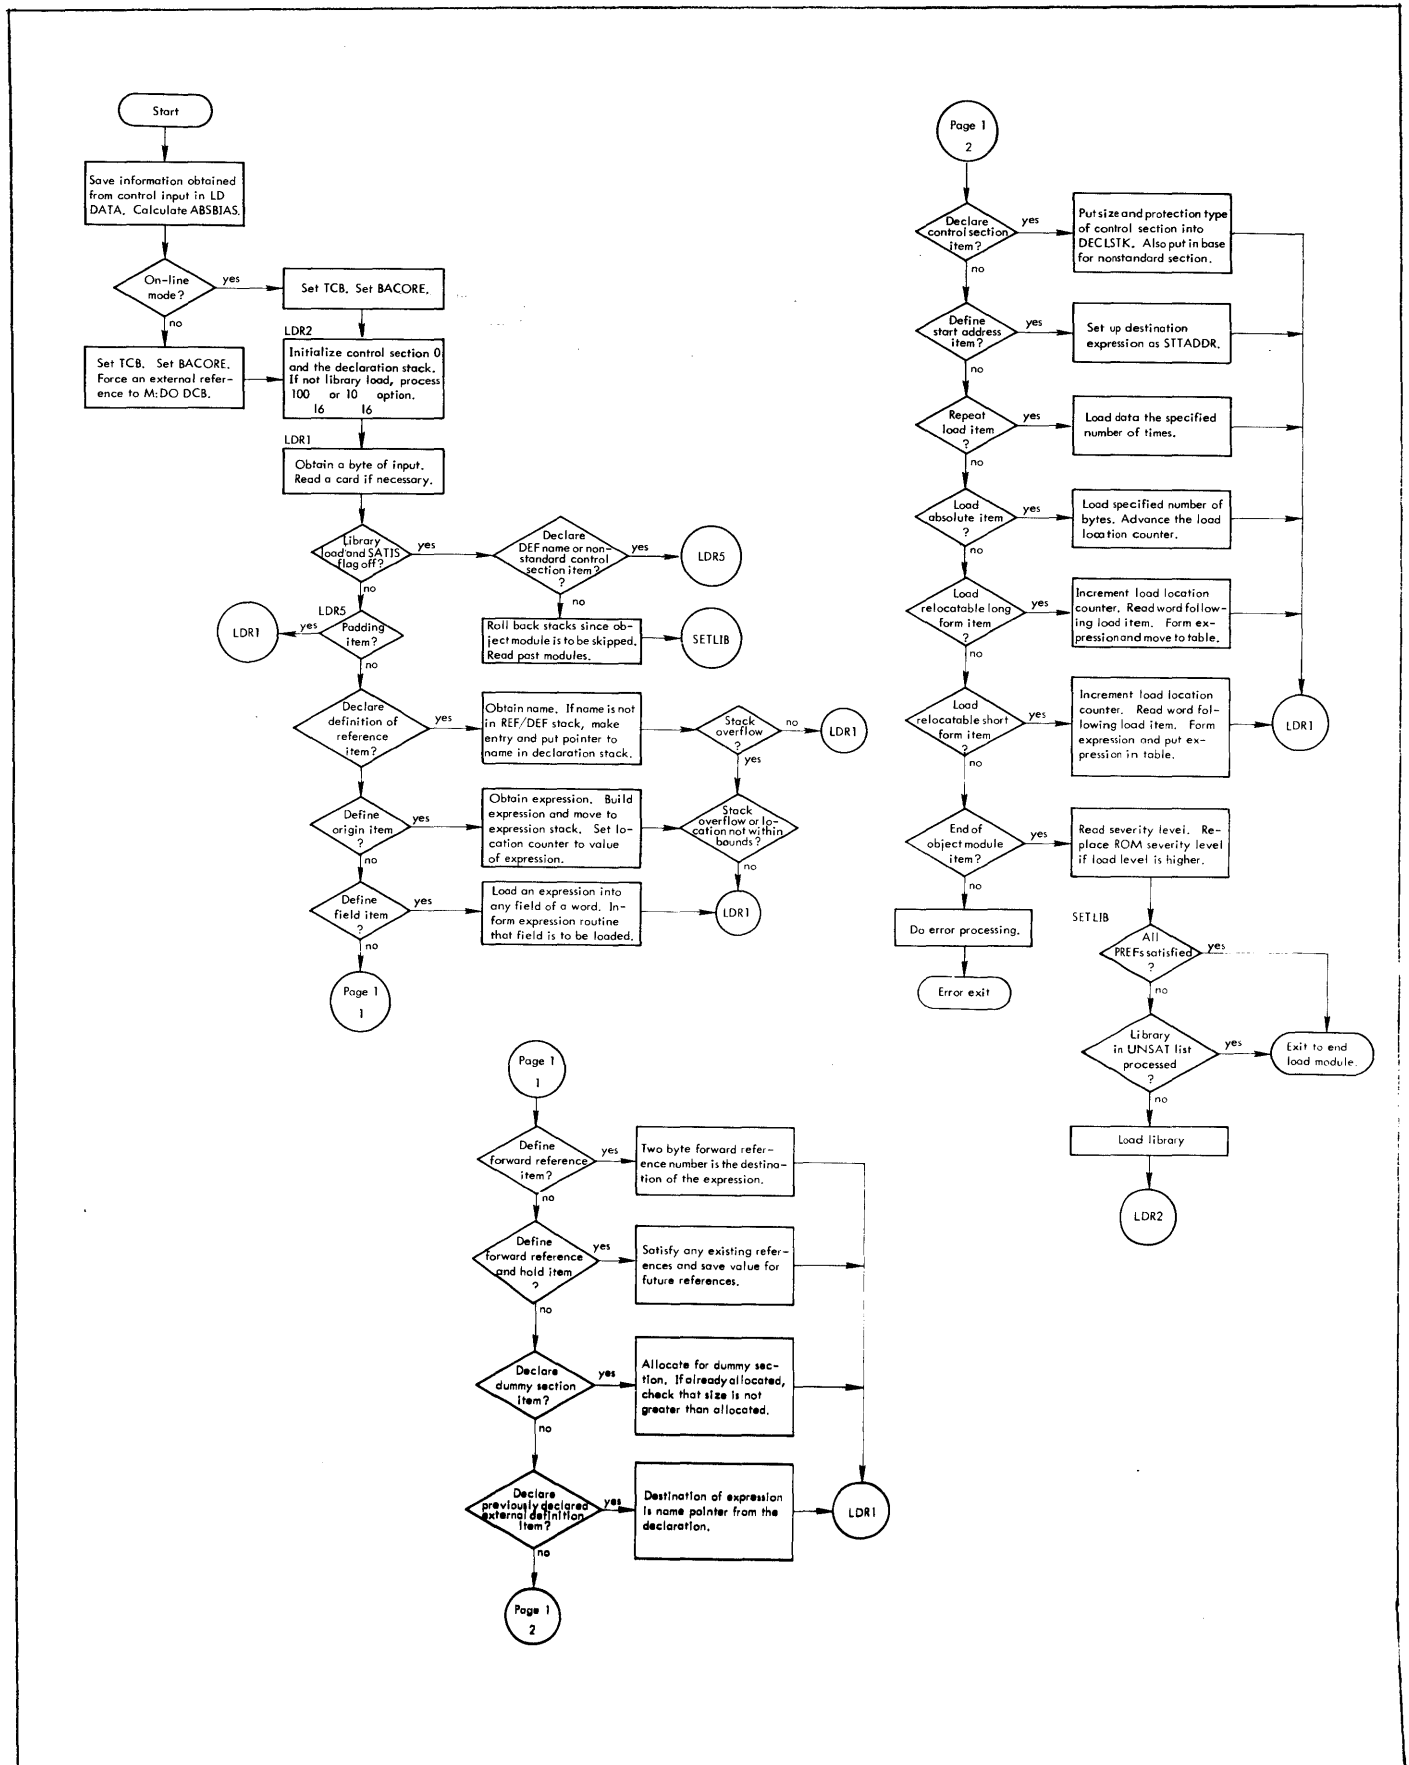

Figure 2-20. Flowchart for Loader Module
6. Flowchart. See Figure 2-20.